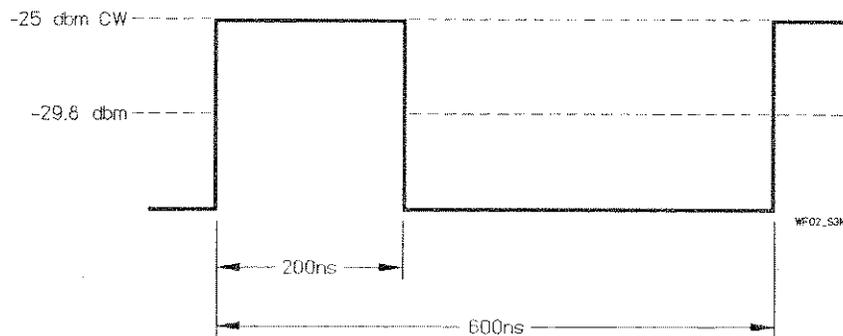

Figure C-4. Pulsed RF Amplitude/Time Relationship
Peak pulse power cannot be directly read from a power meter. Therefore, the following pulsed RF amplitude power relationship is presented as an example of how to interpret pulsed RF power readings. Refer to *Figure C-4* for amplitude/time waveform relationship.
The example in *Figure C-4* works out as follows:
3. View the pulse on the oscilloscope to make final adjustment. The waveform time relationships should match those shown in *Figure C-4* with pulse amplitude at 2.0V nominal.
15. View the pulse on an oscilloscope to make final adjustment. The waveform time relationship should match that shown in *Figure C-4* with a pulse amplitude of 2V.